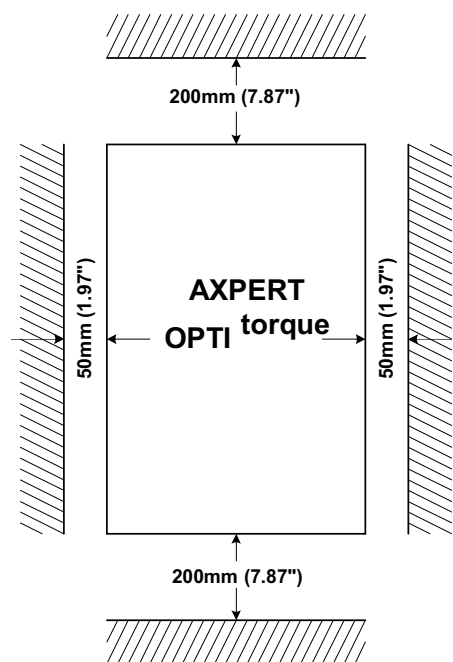

Fig. 2-1-1
- (1) Install the unit vertically to provide proper ventilation.
- (2) Make sure that the ambient temperature is -10°C (14°F) to 50°C (122°F).
- (3) Avoid installation in the following environment.
- (4) Ensure ventilation space around the unit as shown in fig. 2-1-1